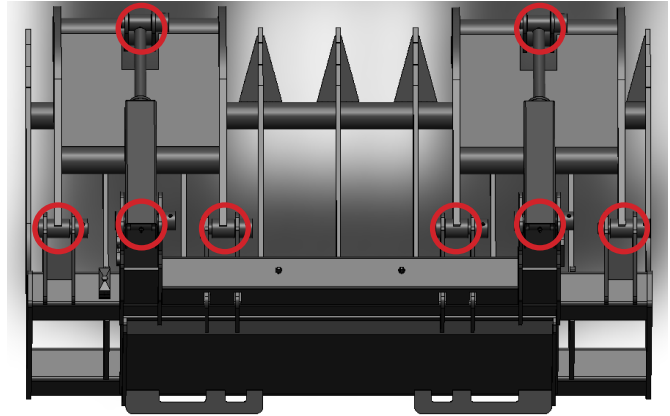

Figure 1
The Extreme Duty, Root Grapple has eight (8) grease points. These points are circled in Figure 1.